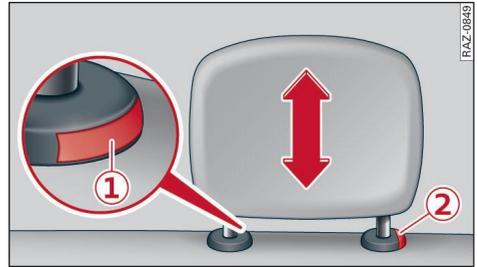

Fig. 46 Rear seat: Operating the head restraint
- ▶ Press the buttons (1) ⇒ *Fig. 46* and (2). At the same time, pull the head restraint out of the backrest ⇒  in *General information on page 55*.